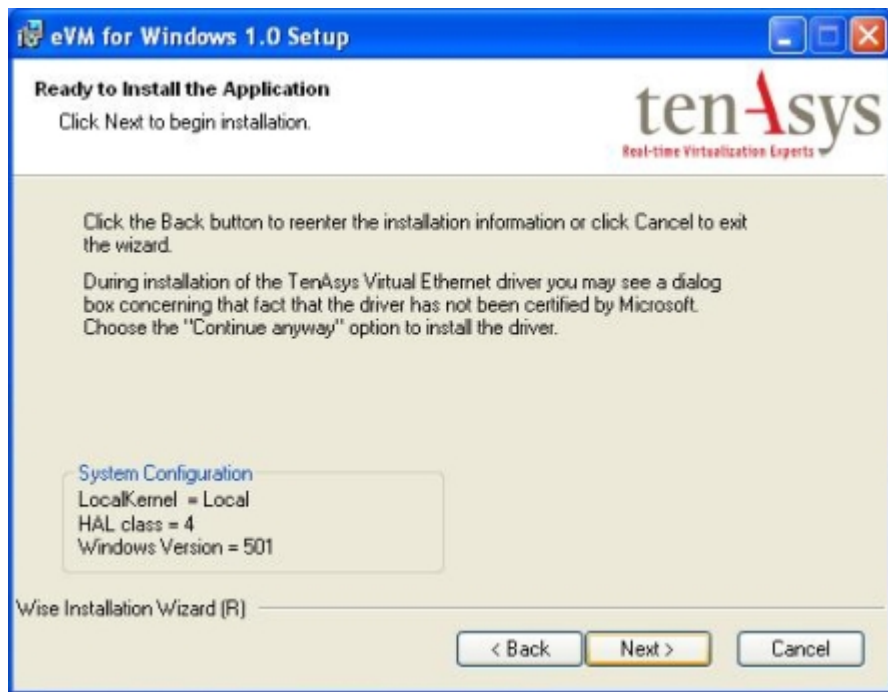

Figure F. 22 - eVM Installation Verification
21. When your activation code has been verified, the eVM Installation Wizard will then prompt you to confirm that you want to proceed with the installation, Figure F. 22. If you want to check or change anything at this point, you can click the **Back** button.